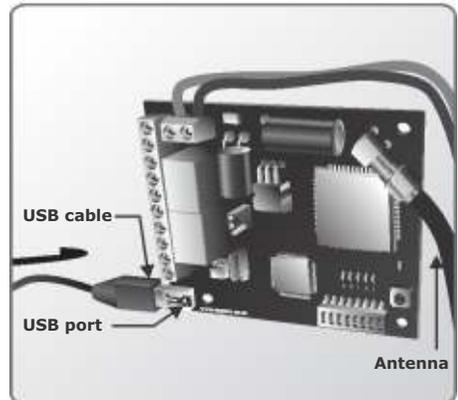

FIGURE 7.
6. Connect the USB cable to the USB port as shown in Figure 7 and follow the programming instructions in Section 12.